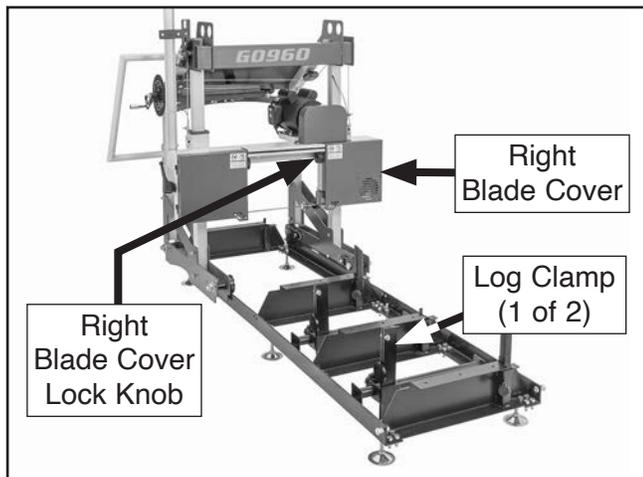

Figure 46. Carriage placed on track and location of right blade cover and lock knob.
Note: Carriage must face forward for log supports and log clamps to function (see **Figure 46**). Log clamps are attached to front rail section.
- 49. Turn right blade cover lock knob clockwise to open right blade cover (see **Figure 46**).